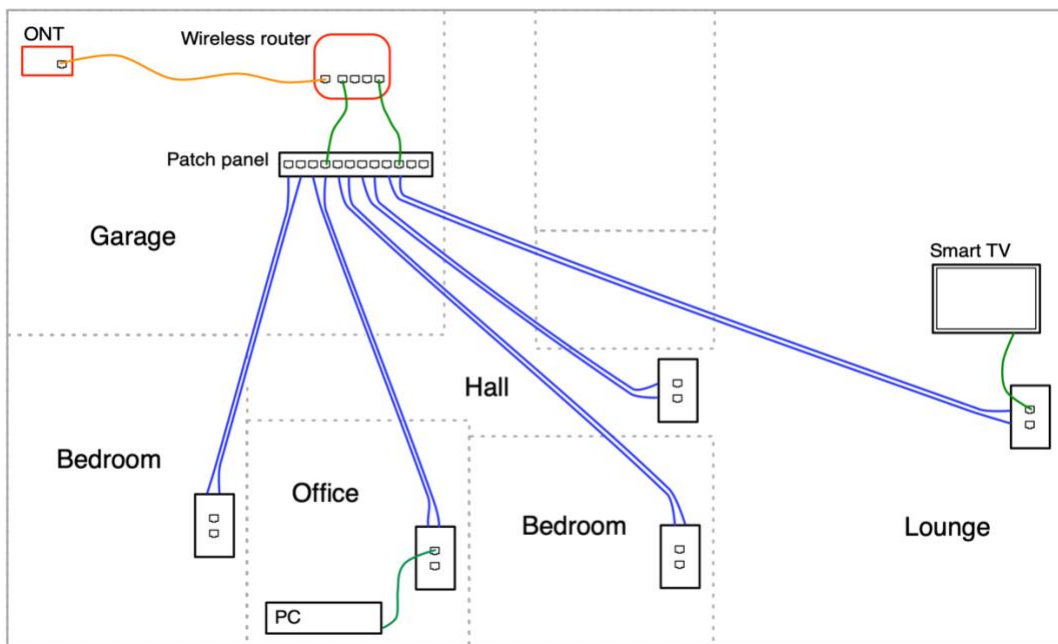
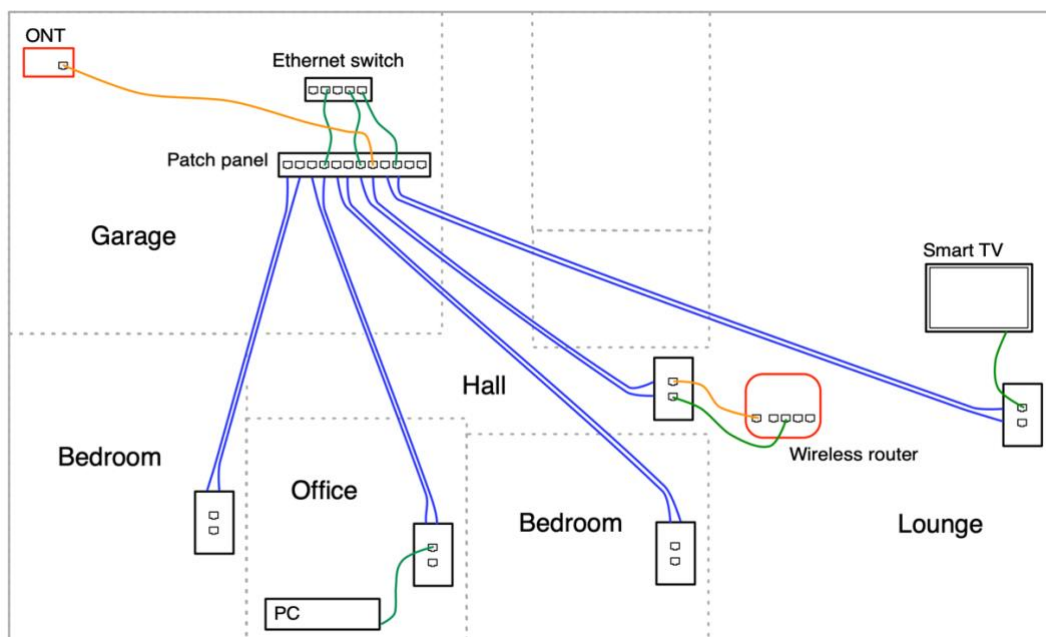

Figure 4 – Wireless router at central point, connected to a smart TV and PC
Figure 5 – Separate ethernet switch in central point with wireless router moved for better WiFi coverage
- 6.3. In the central point, a patch cable should be connected between the port that corresponds to each device, and an ethernet switch. That may be the switch built into the wireless router provided by your Internet service provider (see Figure 4), or a separate ethernet switch (see Figure 5), which is itself connected to your ISP router (to provide Internet access to all devices on the network).